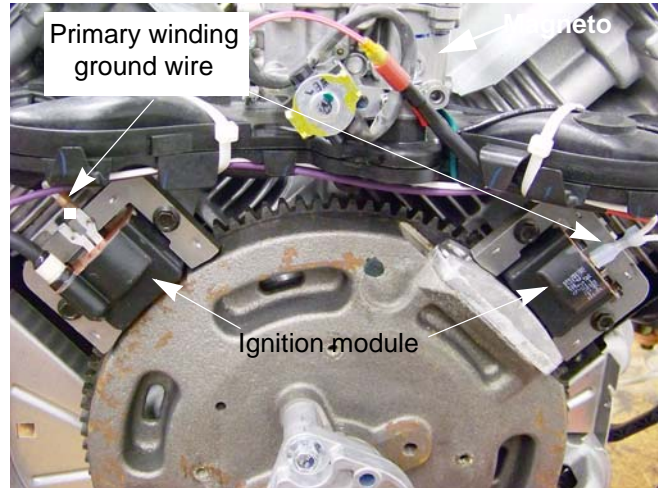

Figure 7.17
1. The ignition sparks are generated by an **ignition module**. The ignition module will work as long as the primary windings are not grounded. With the key switch in any position other than off, there is no connection between the M (Module) terminal and the G (Ground) terminal. See Figure 7.17.